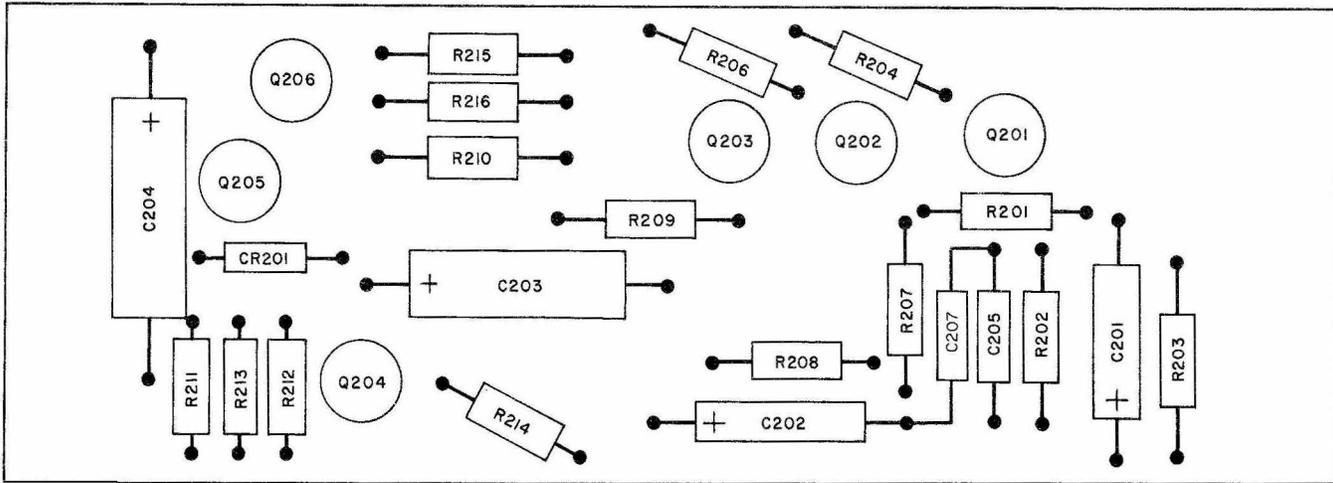

Figure 5-12. Channel B A.F. Oscillator Board Assembly, Location of Components
- (5) Channel A A. F. OSCILLATOR board, figure 5-12.